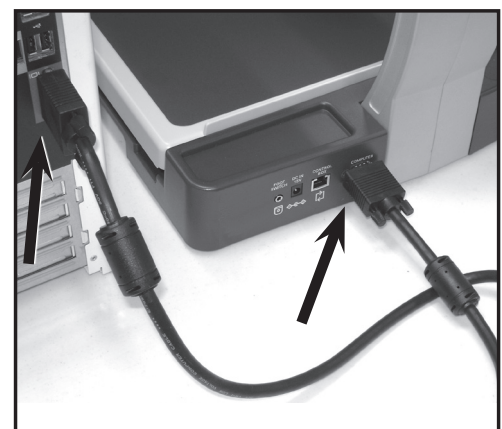

Figure 4
3. Connect the male end of the optional VGA Extension Cable into the VGA port of your computer. This is usually where you would connect your external VGA monitor to your computer (see *Figure 4*).